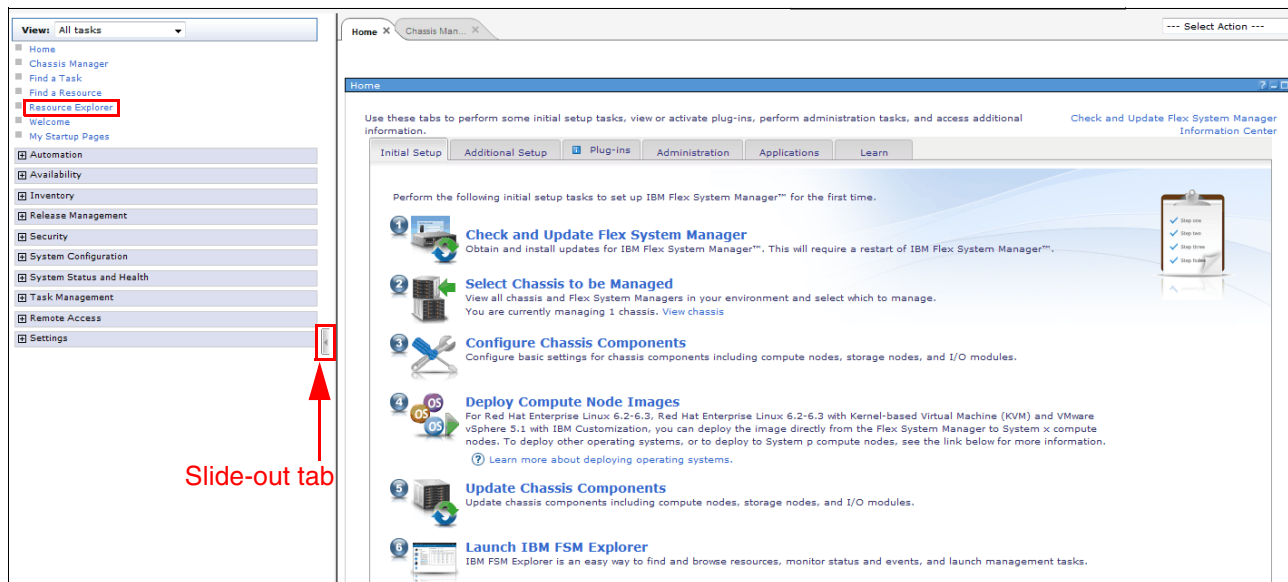

Figure 3-89 Opening Resource Explorer in FSM
1. From the left slide-out tab, select **Resource Explorer**, as shown in Figure 3-89.